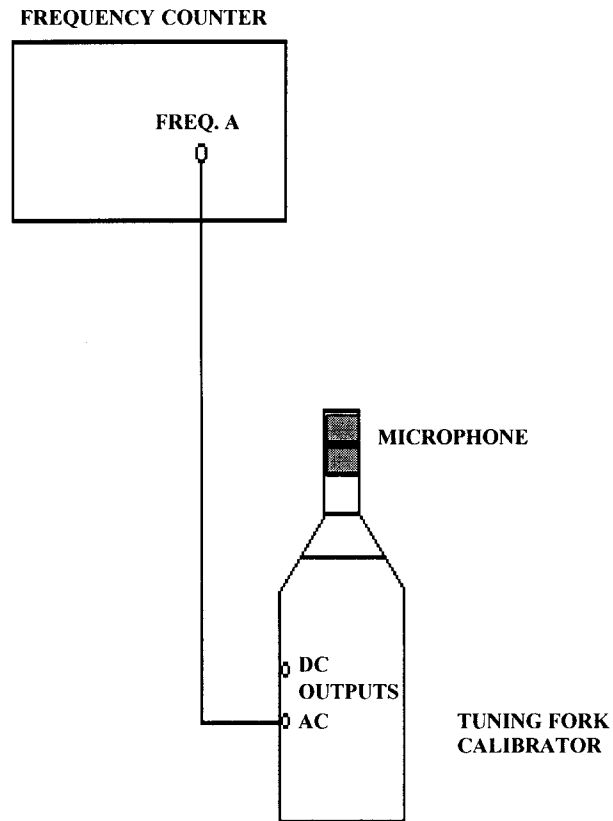

Figure 1. Tuning fork calibrator equipment.
a. Connect equipment as shown in figure 1.
b. Position tuning fork calibrator switches as listed in (1) through (4) below.
- (1) Select a tuning fork.
- (2) Strike tuning fork sharply on the edge of wooden (or plastic) bench (or table) and hold approximately $\frac{1}{4}$ -inch over microphone (fig. 1) while observing frequency counter indication. Record frequency counter indication.